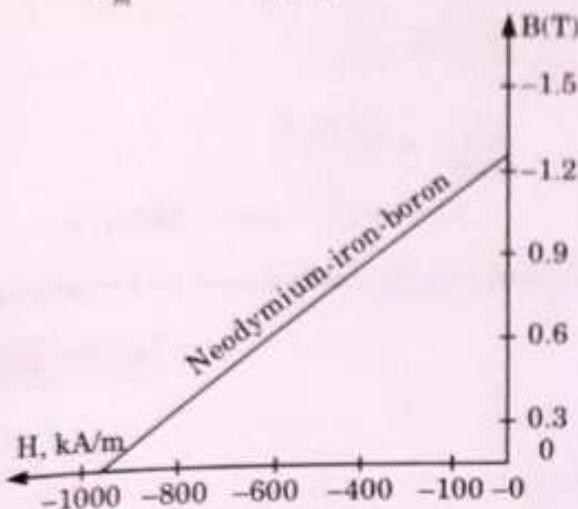

Fig. 4.4.1.
1. The DC magnetization characteristics of PMDC motor is shown in Fig. 4.4.1.